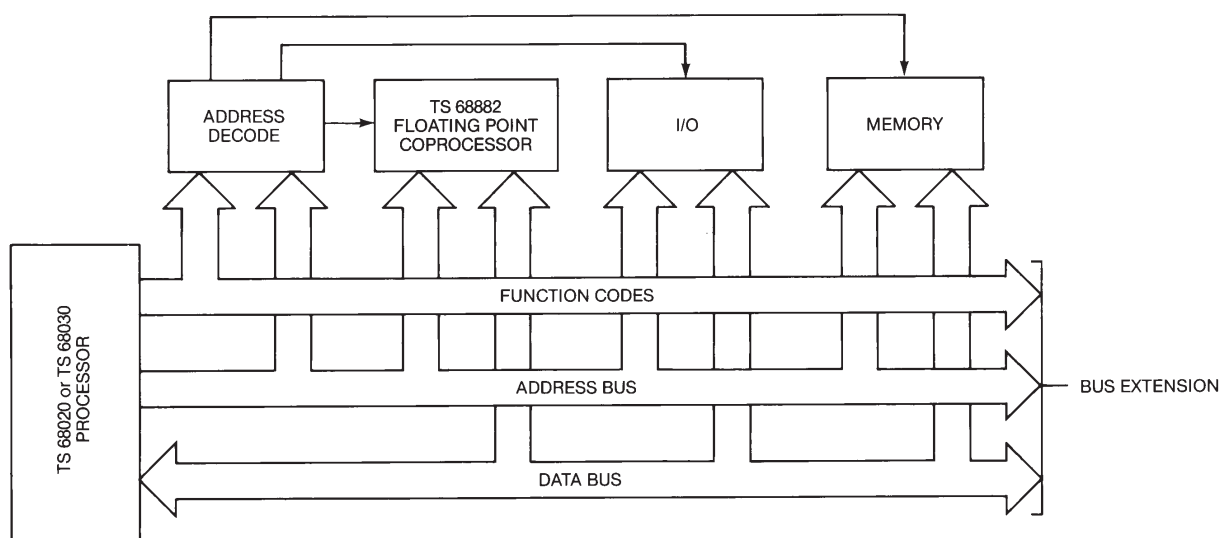

Figure 16 : Typical coprocessor configuration.
The connection between the TS 68020 / TS 68030 and the TS 68882 is a simple extension of the TS 68000 bus interface. The TS 68882 is connected as a coprocessor to the TS 68020 / TS 68030, and the selection of the TS 68882 is based upon a chip select (CS), which is decoded from the TS 68020 / TS 68030 function codes and address bus. Figure 16 illustrates the TS 68882 / TS 68020 or TS 68030 configuration.